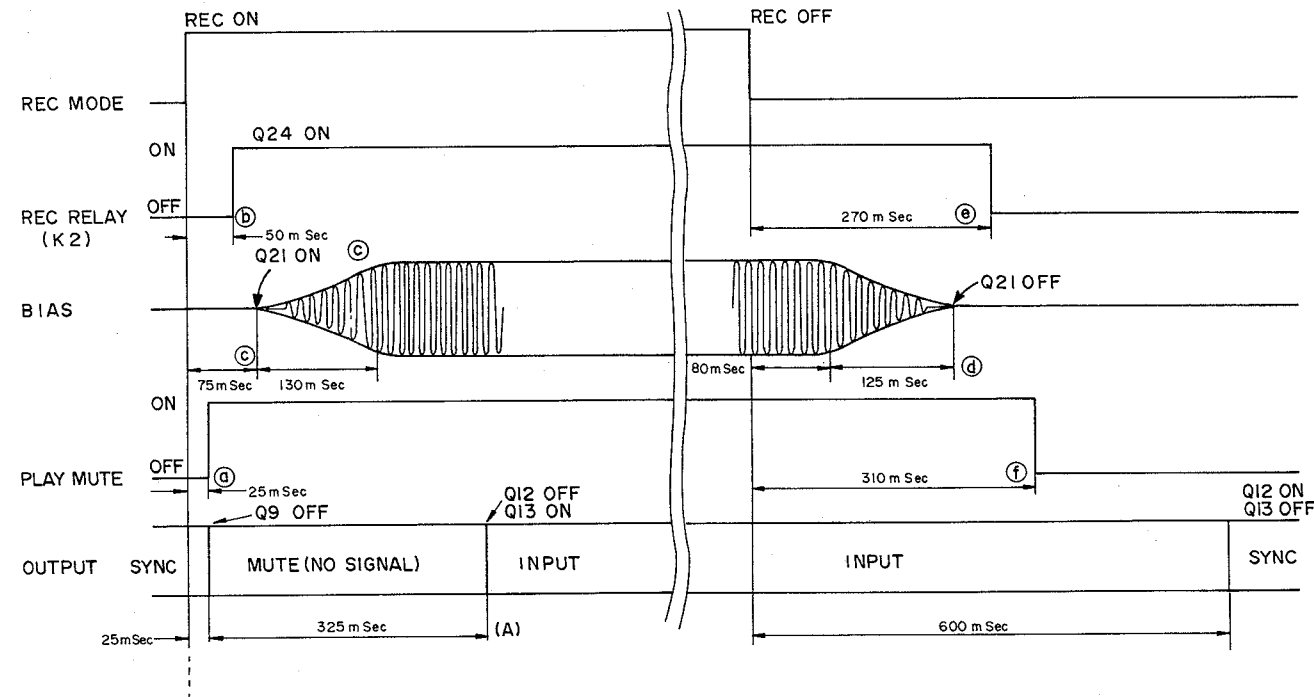

Fig. 5-23.
2. Since Q15 base bias falls as the MUTE terminal goes L, Q15 is cut off and the voltage at junction R68 and C31 rises for the time period determined by $R70 + R68$ and C31 time constant. Since voltage is applied to the base of Q9, Q9 is turned on after the time constant time (approx. 25 msec), and the sync reproduction signal is shorted at ground through the emitter-collector path of Q9, thus disconnecting sync output from the OUTPUT terminals. Refer to Fig. 5-23(a).
3. Q22 is cut off as output pin 6 of U6 goes L. Then, +15 V voltage is applied to Q23 base for a brief period of time through C36, and makes Q23 turn on to discharge the residual electric charges stored in capacitor C38. When the charging to C38 is completed, Q23 is again cut off, and C38 charging starts. When this charging to C38 is completed, Q24 is turned on and the REC relay K2 is actuated, thus the record/sync head is switched in the record circuit. The time required for this switching has been adjusted to approx. 50 msec through the time constant circuits including C38, R112, C36, R110, etc. Refer to Fig. 5-23(b).
7. In this way, switching operations for both Q12 and Q13 are made under influence of four time constants, each relating to capacitors C36, C38, C39, & C30, and C36, C38, C39, & C32 (as stated in 4, 5 and 6 above). Accordingly, their total time required for switching operation becomes considerably long as shown in Fig. 5-23 (A).
8. When Q18 is cut off, Q19 is turned on until C35 is charged; thereby, discharging the residual charges stored in C37. Then C37 is recharged through R93, R94, R95 and, when recharging is completed, Q20 is turned on. After this, charging to C45 begins through R101, R102 and the charged voltage reaches approx. 0.6 V, which causes Q21 to turn on to actuate the bias oscillator amp. In this way, the operation of bias amp is influenced by the corresponding C35, C37, and C45 time constants, causing the bias oscillator to start functioning at approx. 75 msec, after the punch-in operation has been set, to gradually increase the bias amplitude as shown in Fig. 5-23(c). Accordingly, the amplitude of the signal being recorded on
10. The charges stored in C37 is discharged through D16, R94, Q18 (emitter-collector path) as Q18 is turned on. Then Q20 is cut off, followed by Q21 cutting off. The time required to cut Q21 off depends upon the sum of the discharging time constants of C37 and C45, and is set to approx. 205 msec, as shown in Fig. 5-23(d). As the result, the bias oscillator voltage amplitude of the bias amplifier is gradually attenuated as illustrated, and the amplitude of signals being recorded is also attenuated gradually.
11. When Q22 is turned on, the charges stored in C38 is discharged through R107 and Q22 (emitter-collector path), cutting off Q24 as the discharging potential is decreased. Then the REC relay is switched in to the SYNC side. The time required to actuate the REC relay is set to approx. 270 msec, completely after the bias oscillator voltage amplitude has been attenuated to zero. Refer to Fig. 5-23(e).
On the other hand, MUTE terminal 19 goes H immediately after the punch-out operation, but Q15 base bias voltage is unable to rise because, at this time, output pin 3 of U5 is being set to L. Therefore, Q15 is maintained cut off and Q9 is also held in its conductive state. Next, when Q25 is turned on, input pin 5 of U5 goes H and output pin 4 (or input pin 1 of U5) goes L, causing output pin 3 of U5 to go H. Accordingly, Q15 is turned on, and this makes Q9 cut off, thus releasing the short-out circuit for SYNC reproduction signals. In other words, Q9 can not be turned off until the REC relay completes switching in to the SYNC position. Thus no switching noise is developed in the monitor output circuit. Refer to Fig. 5-23(f).